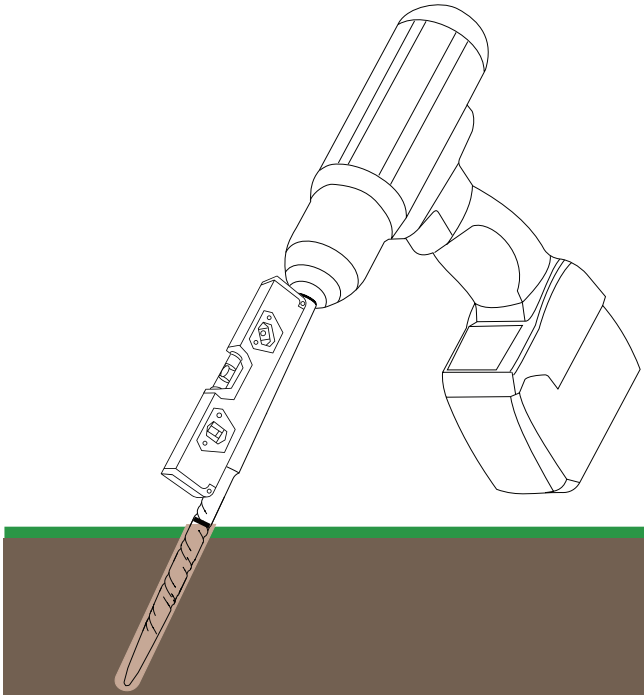

Figure 5 Drill bit and level
1. Mark the required drilling depth on the masonry drill bit (Figure 5).
2. To ensure the pilot hold is drilled correctly, use a level on the side of the drill bit to set the predetermined installation angle. (Figure 5).